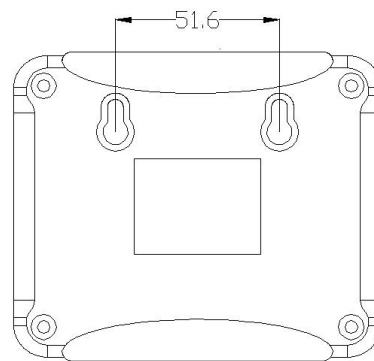

Figure 4 Fixing hanger
- 3 Hang the product on the wall. The hanger is shown in figure 4.